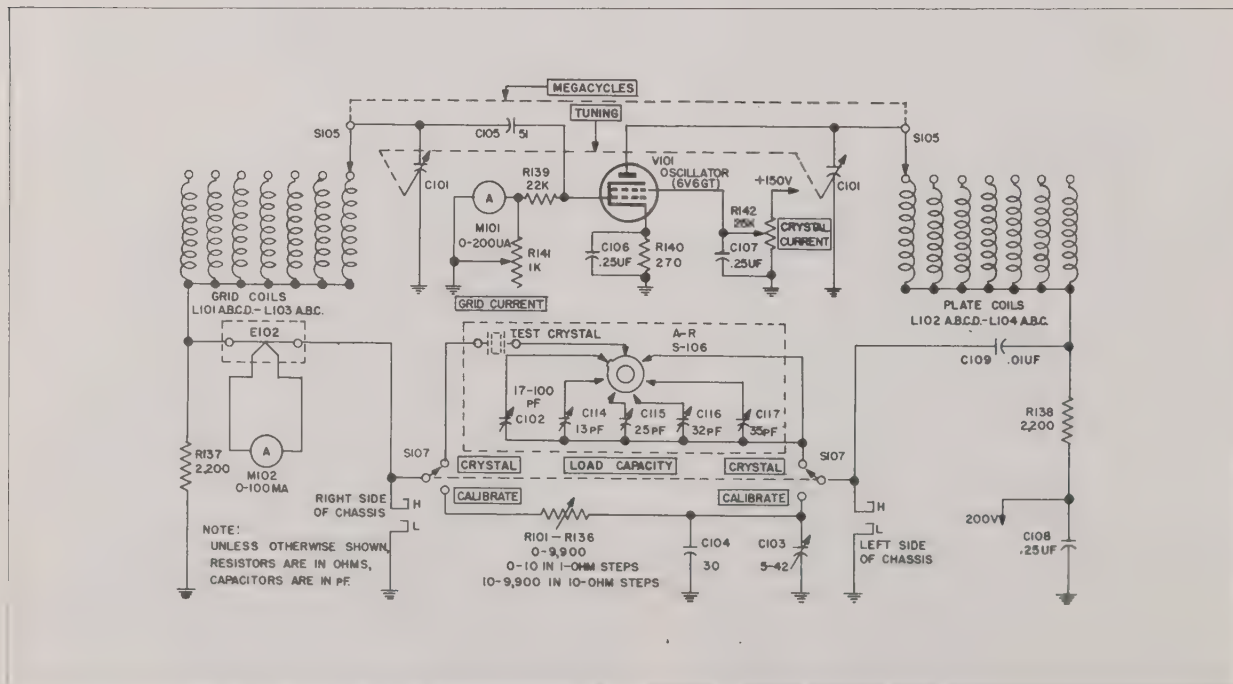
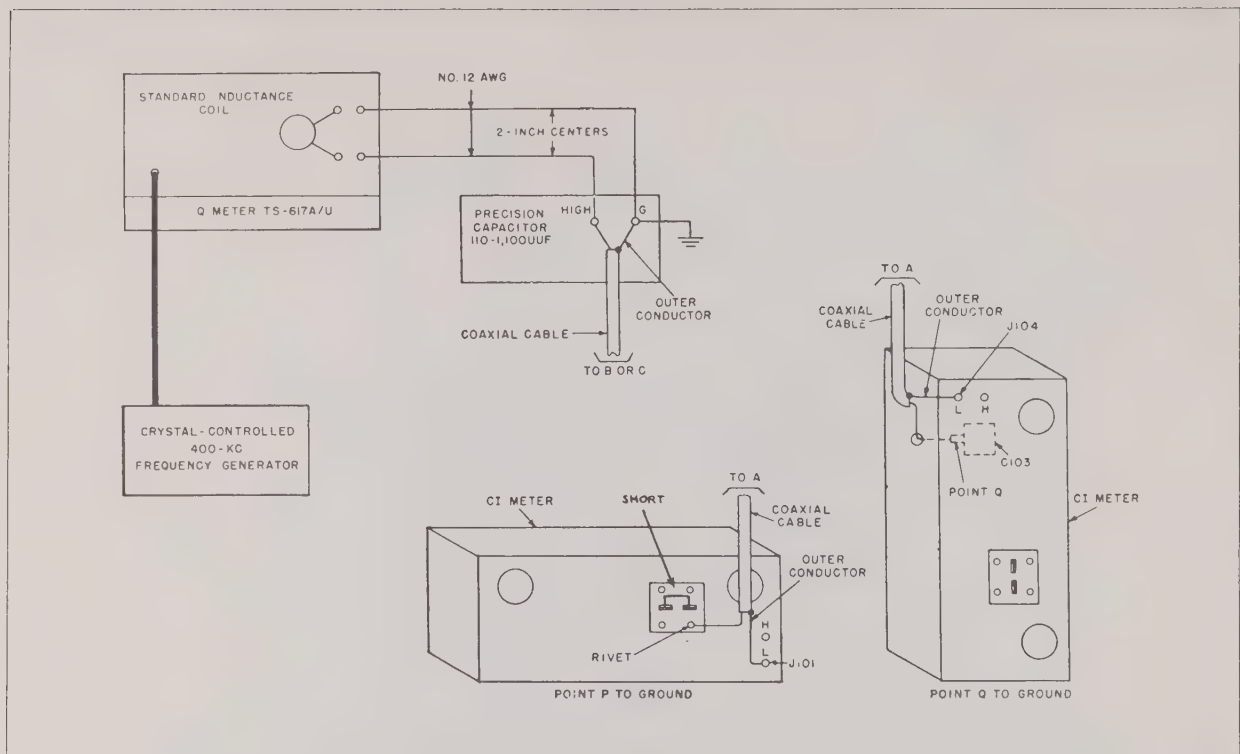
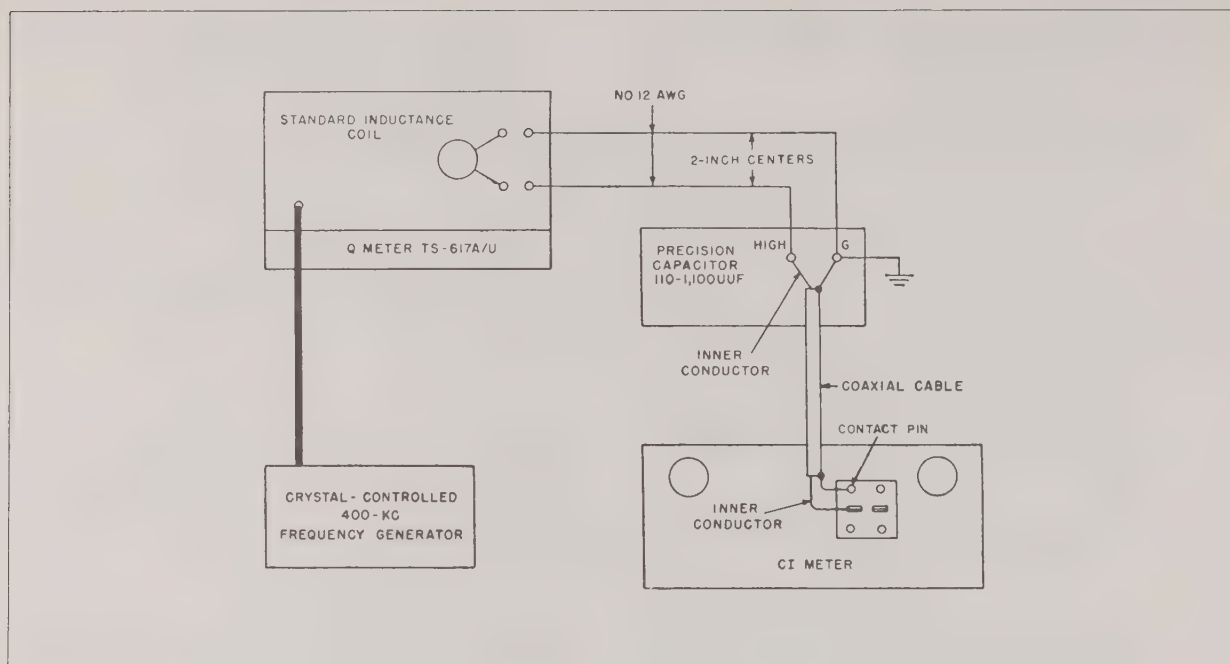

Figure 6. Schematic Diagram of Feedback Network
Figure 9. Test Circuit For Measurement Of Points P And Q To Ground.
Figure 10. Test Circuit For Calibration Of Load Capacity Dial.
j. **Oscillator** — (1) The frequency bands of oscillator tube V101 are changed by switching (using MEGACYCLES switch S105) inductances L102A, B, C, D, and L104A, B, C, into the plate tank circuit, and L101A, B, C, D, and L103A, B, C into the grid circuit. For each band, the r-f coil connected to the plate has the same inductance as the r-f coil connected to the grid. The frequency range covered is 0.8 to 15.0mc in seven ranges. The tuning in each band is accomplished with variable, dual section capacitor C101 (TUNING control) of 7.8 to 160 μ F for each section.
(2) The 51 μ F capacitor C105 couples the grid of V101 to the tuning coils. The charging current of this capacitor is measured by means of 0 to 200 μ A (microampere) meter M101 (GRID CURRENT). The sensitivity of M101 is adjusted by varying the 1,000 ohm shunt potentiometer R141 (GRID CURRENT control). The greater the voltage of oscillation on the grid of V101, the greater the reading of meter M101. The magnitude of oscillation is controlled by varying the voltage on the screen grid of V101 with the 25,000 ohm potentiometer R142 (CRYSTAL CURRENT control).
k. **Feedback Network** — The feedback network (Figure 6) consists of two sections: the crystal socket assembly and the resistance substitution decade. The lever switch S107 (CALIBRATE-CRYSTAL) connects either one section or the other to the oscillator. The .01 μ F capacitor C109 couples the moving arm of switch S107 to the 2,200 ohm, r-f dropping resistor
The capacitance from point P (Figure 9) to ground (with CALIBRATE-CRYSTAL switch S107 in the CALIBRATE position) must equal that of point Q (Figures 6 and 8) to ground (with switch S107 in the CRYSTAL position). Capacitor C103 (Figure 8) must be varied until these capacitance values are equal. These capacitances are measured (Figure 9) by use of Q Meter TS-617A/U and a 110-1, 100pF precision capacitor (type 722-D, General Radio Co., or equal). A crystal-controlled, 400-kc frequency generator (oscillator) must be used to stabilize the frequency of the Q-meter; a standard inductance coil must be used to tune the Q-meter to resonance. Connect these units together as shown in Figure 9, using No. 12 AWG solid copper wire, spaced on 2-inch centers, and coaxial cable. The exposed ends of the coaxial cable should be as short as possible and should be the same length for each measurement.
Place the CALIBRATE-CRYSTAL switch S107 (Figure 9) in the CALIBRATE position, switch S106 to R, short the crystal socket as shown in Figure 9 and proceed as follows:
3. Connect a banana plug to the outer conductor and insert it into jack J101 (Figure 10). Place the inner conductor, at the other end of the coaxial cable, near (within $\frac{1}{4}$ -inch) one of the rivet (point P) that hold the crystal socket.
4. Set the precision capacitor to 200pF and tune the Q-meter to resonance (maximum deflection of voltmeter on Q-meter) by using a standard inductance coil (Figure 10).
1. Set the switches (Figure 9) as follows:
- a. Stand the C. I. Meter on its end and insert the banana plug on the outer conductor into jack J104 (Figure 9 and Figure 10).
3. Set the precision capacitor to 200pF and tune the Q-meter to resonance, using the standard inductance coil (Figure 10).
- Connect terminals X1 and X2 of Resistance Bridge ZM-4B/U to jacks J102 and J103 of the C. I. Meter (Figure 9) with No. 12 AWG bare wire. These wires should be as short as possible.
Check the frequency correlation between CRYSTAL and CALIBRATE positions of the CRYSTAL-CALIBRATE switch S107 (Figure 9) as follows:
meter M101 (Figure 9), when switch S107 is moved from the CALIBRATE to the CRYSTAL position, is at a minimum. Usually, setting capacitor C113 at one-third of its maximum value is satisfactory for all units. The values of grid current indicated on meter M101 must not vary more than $\pm 3\%$ or $4.5\mu\text{A}$ from $150\mu\text{A}$.